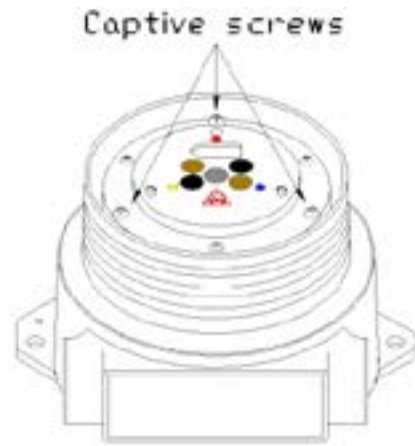

Figure 13. Loosening the captive screws
- Loosen the electronic module's three captive screws (Figure 13).